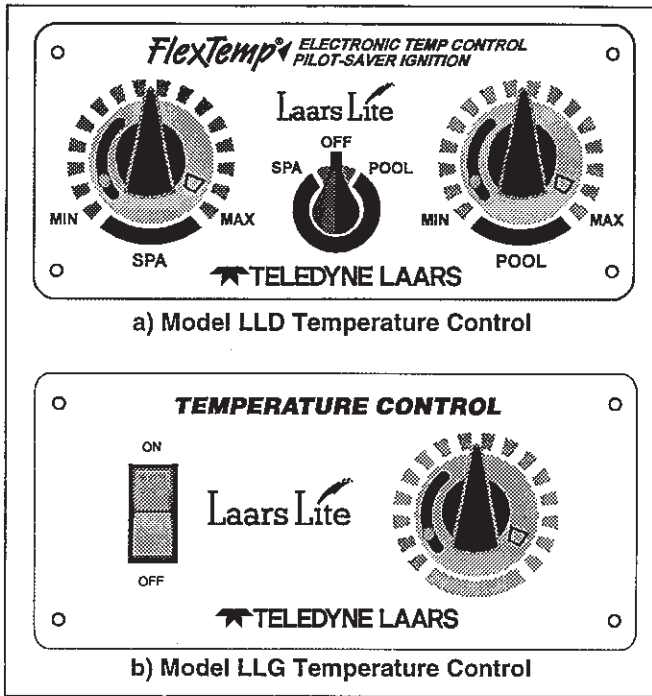

Figure 17. Temperature controls.
1. Turn the control panel rotary switch to OFF (see Figure 17).
2. Set the rotary switch on the temperature control panel (see Figure 17) to OFF.
The temperature control (see Figure 17) is calibrated at the factory and covers a range from approximately 70 to 104°F (21 to 40°C). Use an accurate pool thermometer to determine the best water temperature for your uses.
The Laars Lite model LLD has dual temperature controls, which allows two different temperature settings, selected by the rotary switch in the middle of the panel. One control can be set for normal use and the other for standby; or one can be set for pool and the other for a spa. Placing the rotary switch in the middle turns off the heater (see Figure 17). The model LLG has only a single control and is set similar to the LLD above.